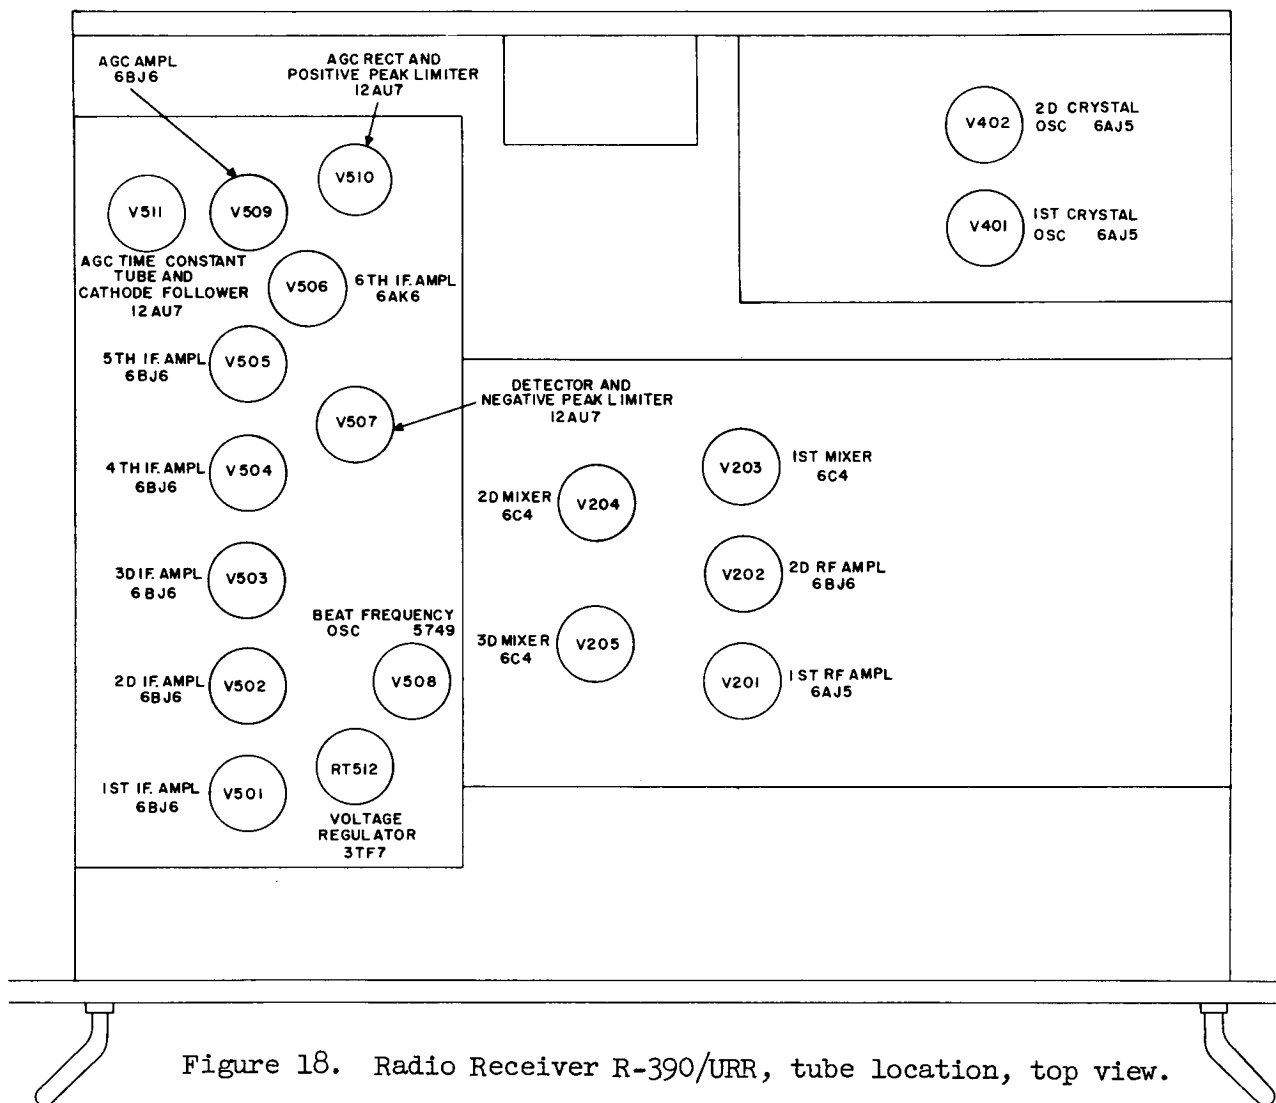

Figure 18. Radio Receiver R-390/URR, tube location, top view.
b. Radio Receiver R-390/URR. Before installing the receiver, check all tubes to see that they are firmly seated in their correct sockets (figs. 18 and 19). Set the front panel controls to the following positions: